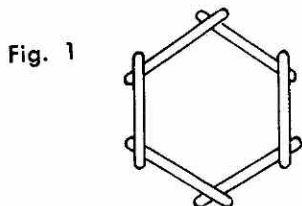
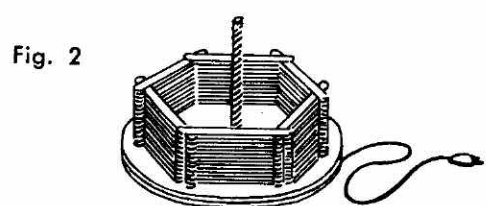

Fig. 1
Fig. 2
1. Place and glue 6 CRAFT STICKS as shown in Fig. 1. The center area should measure 5 3/4". Continue building in this manner (Fig. 2) until there are 43 layers, or a stack approximately 3 3/4" high.